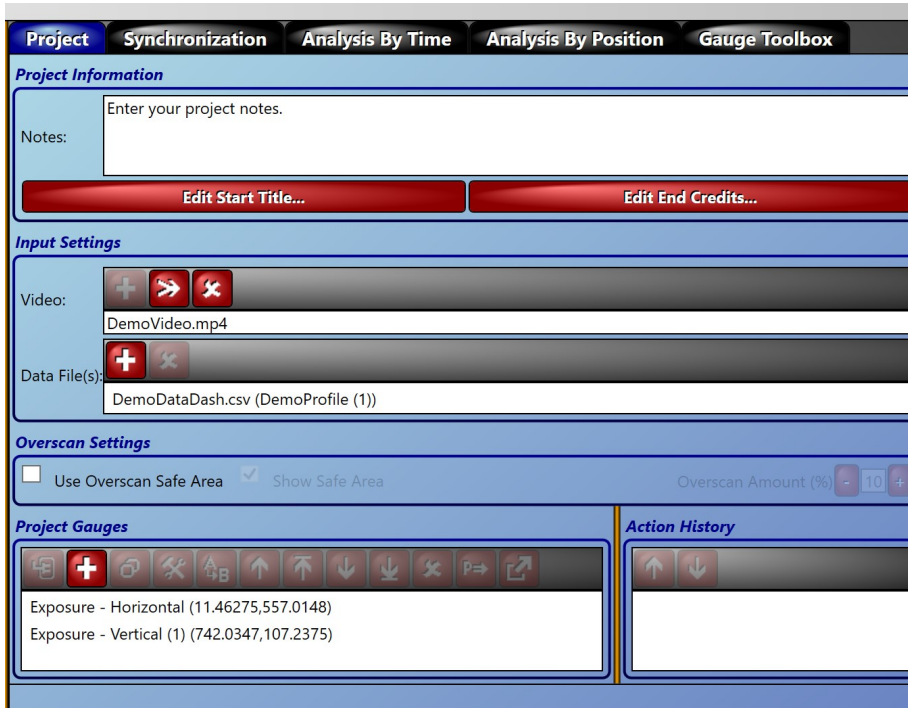

Figure 33 Project set up panel of DashWare.
4. Clicking on the Project tab will allow you to set up your project (Figure 33).
To quickly alter the data source of a gauge, you can go to the Projects Gauges in the Project tab (Figure 33), highlight the gauge you want to alter and then press the Edit Gauge Input Assignment button (). This will allow you to change the Data Value used for your gauge.